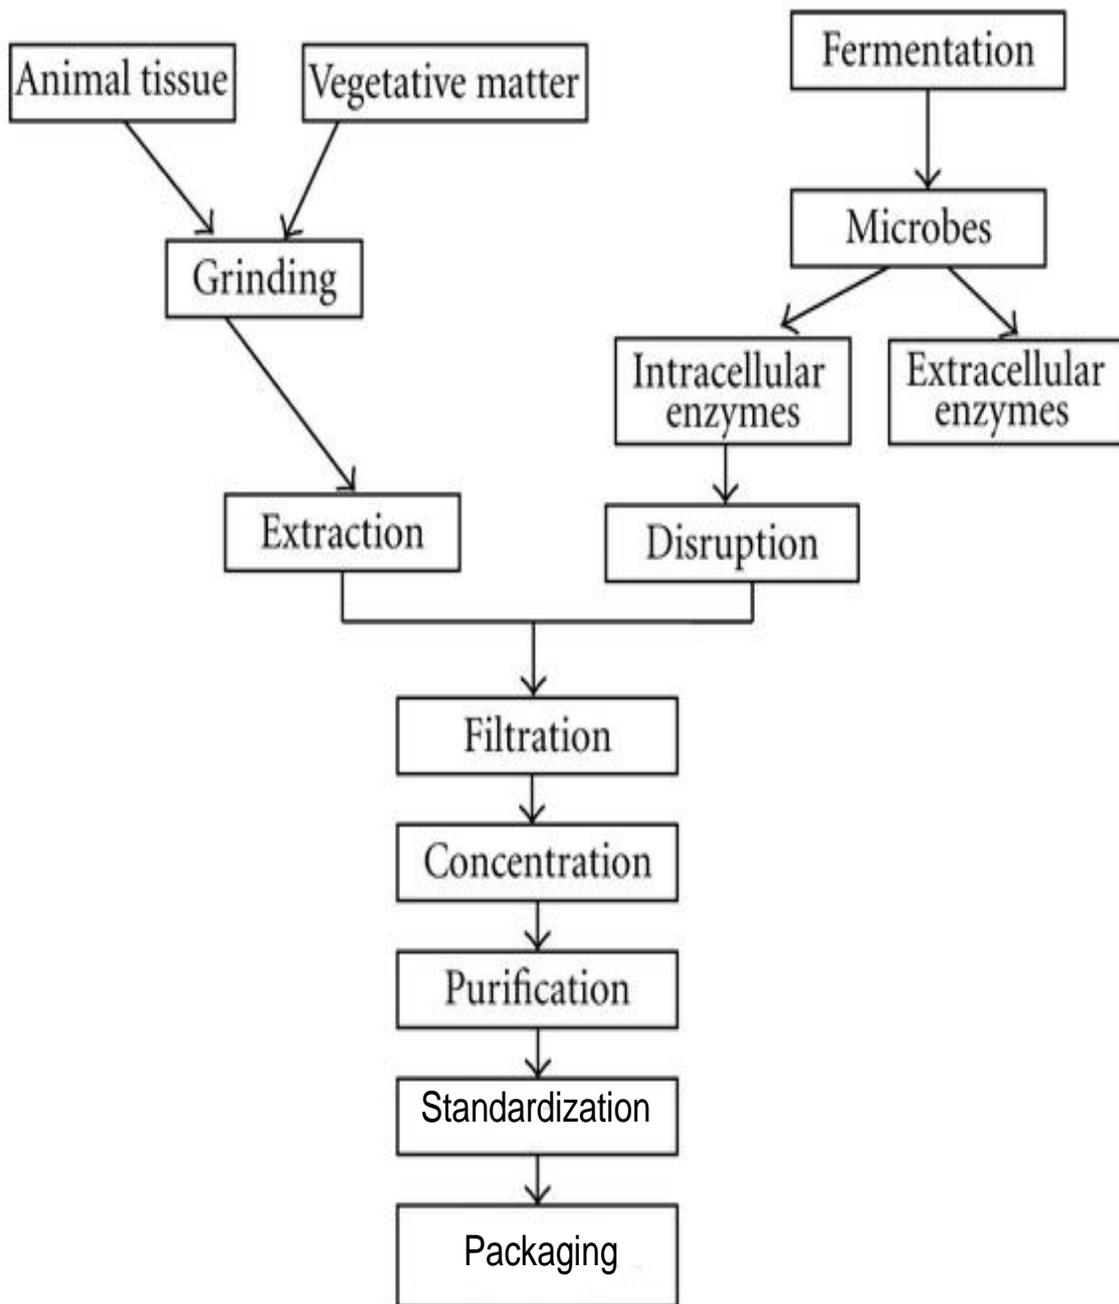

Fig. 7.2: Main stages of enzyme production
- **The main stages of enzyme production are (Fig.7.2):**